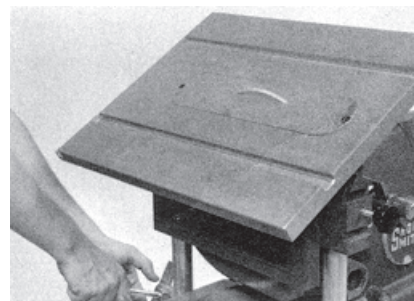

Fig. 9
1. To safely perform rabbet cut, table insert should be placed with a blank piece of 1/4" thick hardboard. With machine running, slowly lower table over insert to cut saw slot (see Fig 9). This allows fence to be moved close enough to blade to cut rabbet and still support stock. Set blade height to project 1/2" Set fence to cut the width of saw teeth. Cut all four pieces at once.